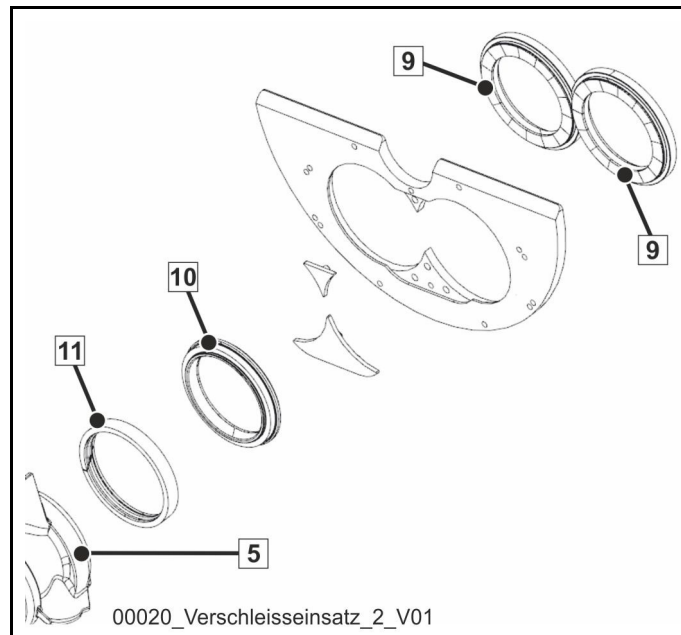

Fig. 328
A two-piece wearing insert (9) (Fig. 328) made of white cast iron with an appropriate support plate is available as special equipment.